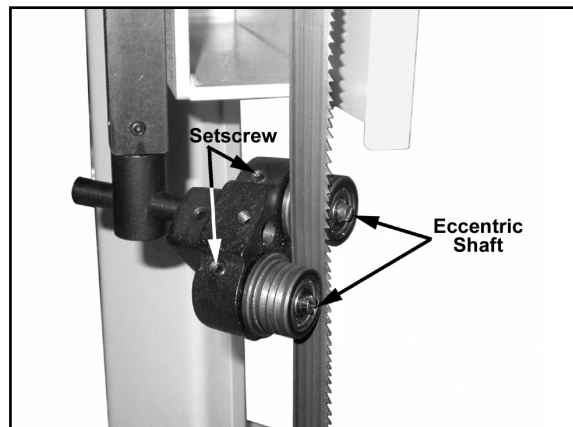

Figure 7: Guide Bearing Adjustment
Blade tracking has been tested at the factory. Adjustment is rarely required when the blade is used properly and if the blade is correctly welded. (Refer to Figure 7 for location of blade tracking adjustment setscrew).
3. Position the bearing by turning the eccentric shafts. Set the clearance to approximately 0.001". (See Figure 7).